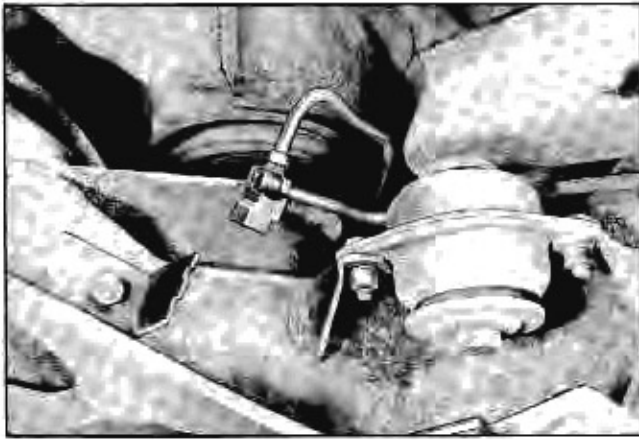

Fig. 3-37 Brake Lines Disconnected
5. Disconnect brake lines at junction block (Fig. 3-37).